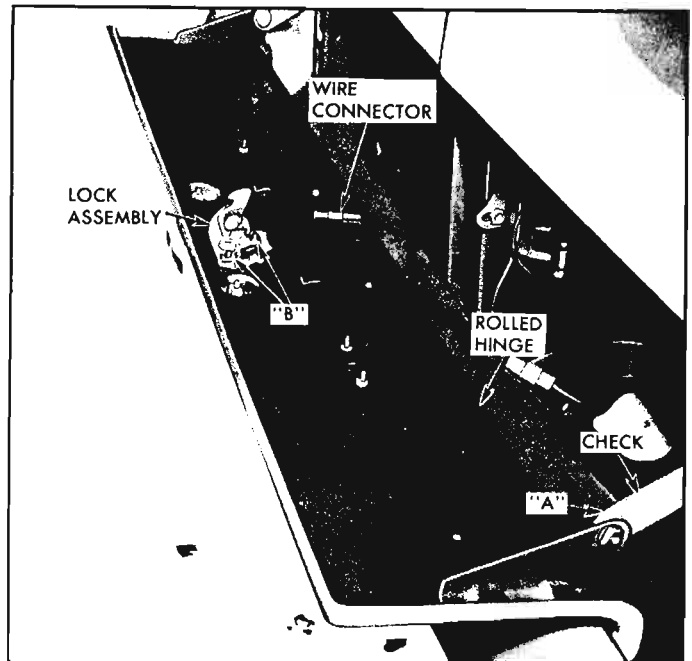

Fig. 10-103a—Engine Access Door
1. Open engine access door and disconnect license lamp wire connector (fig. 10-103a).
2. Remove retaining screw, washer, spring washer and spacer from each door check ("A", fig. 10-103a).
4. Connect wire connector for license lamps (fig. 10-103a).